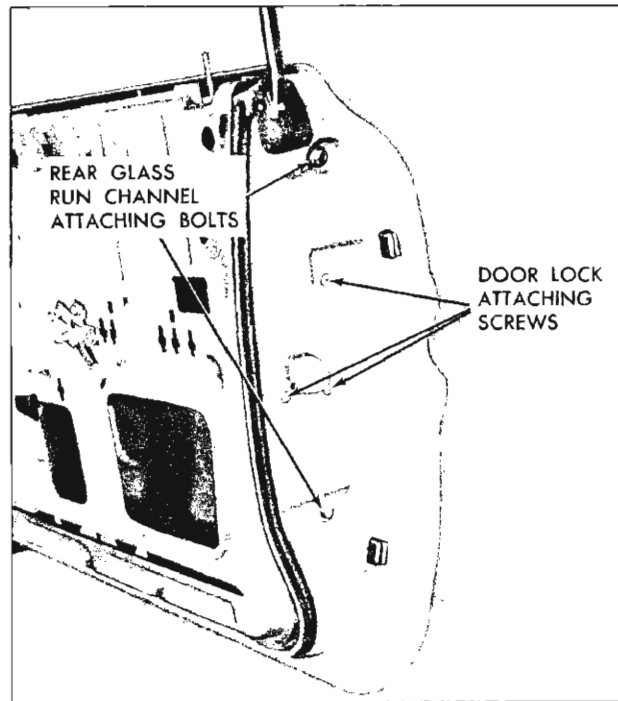

Fig. 28—Front Door Lock Pillar
5. Remove door lock attaching screws from lock pillar facing of door and remove lock assembly from door (fig. 28).
4. To adjust upper rear of window assembly in or out for proper contact with side roof rail weatherstrip, or to adjust rear of window assembly in or out at belt line, loosen rear glass run channel attaching screws at lock pillar facing of door and screw at top of door inner panel. Position channel in or out as required and tighten screws (fig. 28).